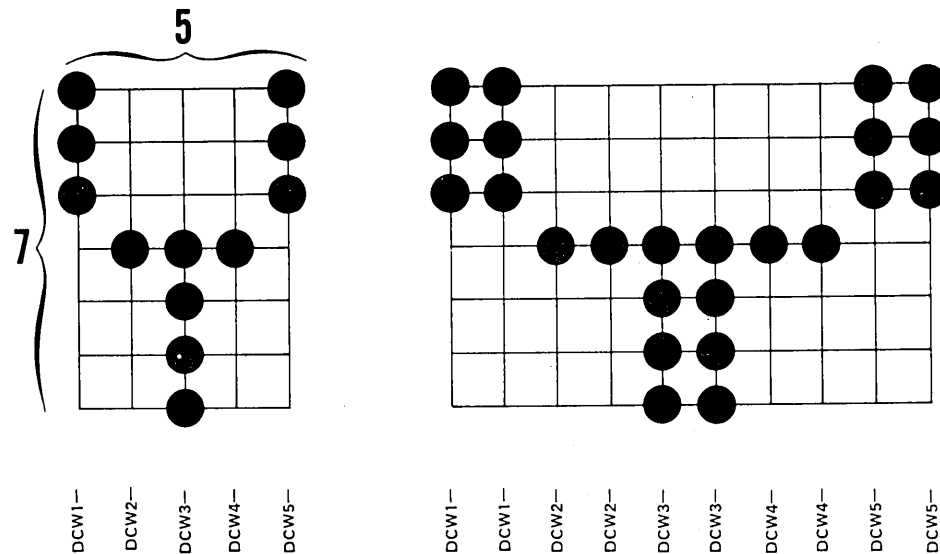

Figure 4-17. NORMAL AND ELONGATED CHARACTERS
For elongated character printing, the DCW timing signals are twice as long during elongated character mode, causing the printed character to be twice as wide as a normal character. An example of the character (Y), both in normal and elongated style, is shown in Figure 4-17.